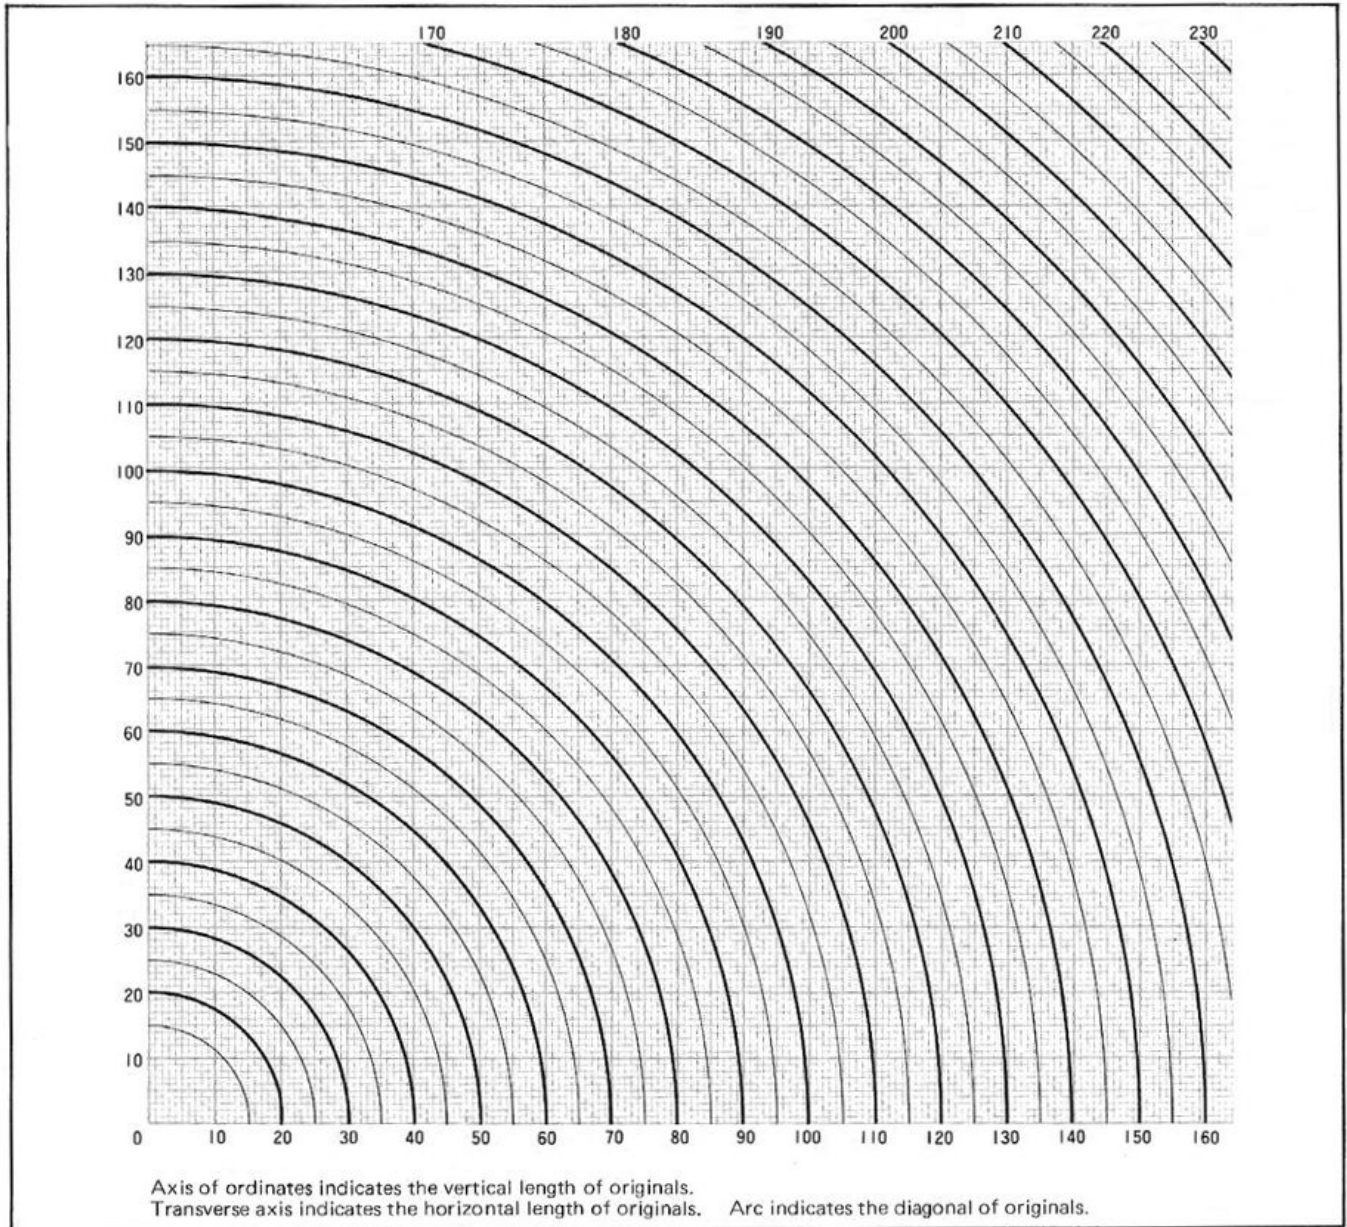

Fig. 6 Diagonal Calculation Graph
- 1) Calculate the diagonal of the original (or if enlarging, that of the image) using the graph in Figure 6. Once determined, check the values given in Table 3 and choose a lens which covers a slightly longer diagonal than that obtained. Among lenses covering a bigger diagonal than required, the lens with the shortest focal length should be selected.